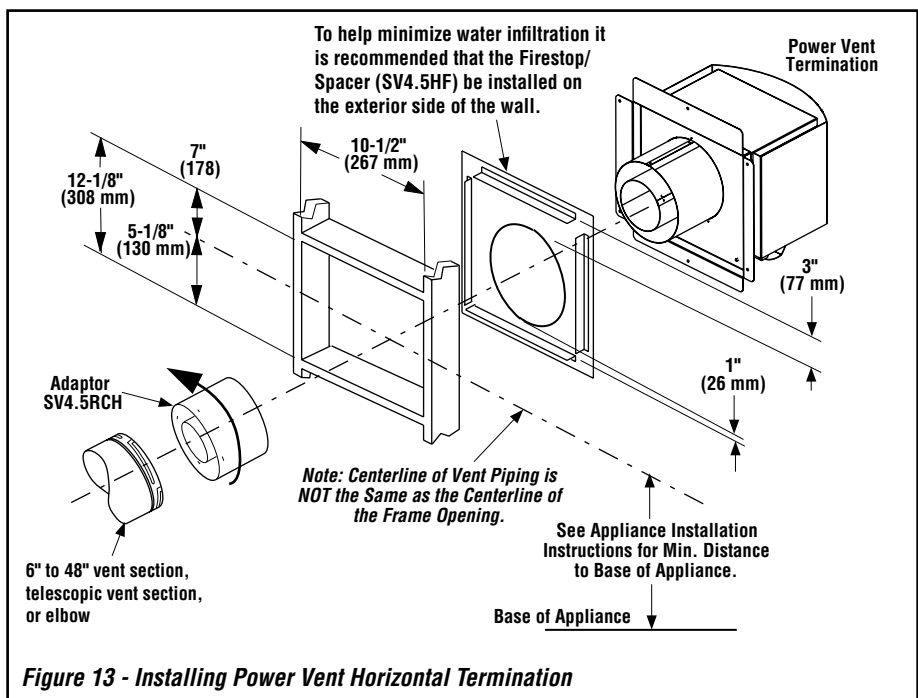

Figure 13 - Installing Power Vent Horizontal Termination
8.2. See *Figure 13*. Attach the **termination adaptor** (SV4.5RCH) [#12] to the last vent section. Attach the termination adaptor in the manner shown in *Figure 4*, "Connecting Secure Vent® Components."
8.3. See *Figure 13*. Install the **firestop/spacer** (SV4.5HF) [#13]: